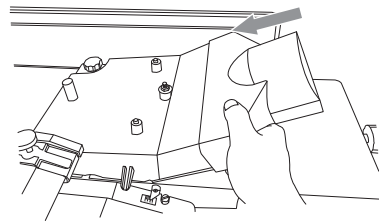

Fig. 30
- > Insert the locating screw (g) on the extractor port into the locating pin hole (e) on the out-feed table, then tighten the hexagon screw (35) with 5mm hex key.
- > Insert the locating screw (h) on the extractor port into the location pin hole (f) on the out-feed table, then tighten the locking knob (36).
- > Ensure tab (i) sits over the machines 2nd interlock safety switch (37). You will hear the switch click as the securing screw is tightened.
- > Slide the extraction port adapter (7) over the extractor port. (Fig. 30)